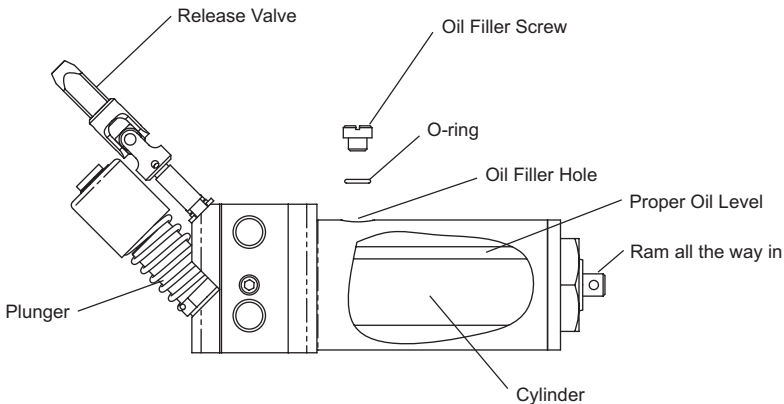

FIG. 4
- Remove the oil filler screw from the cylinder. (see Fig. 4)
- Check ram and pump plunger (see Fig. 4) every few months for any signs of rust or corrosion. Clean as needed by wiping with an oily cloth.